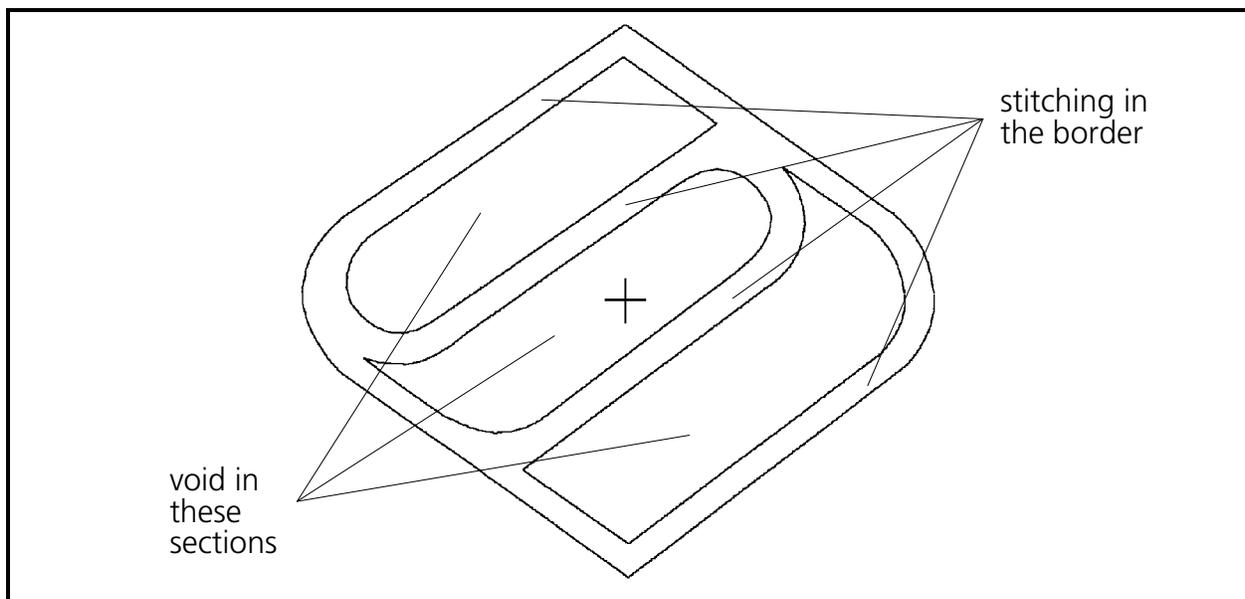

Figure 6-82
For digitizing a complex fill we will use the Saurer logo outline shown in Figure 6-82.
4. Locate the file named scomplx.pcx and load it into the EDS III Object Edit window. When loaded properly the image on the display will look similar to the illustration in Figure 6-82.